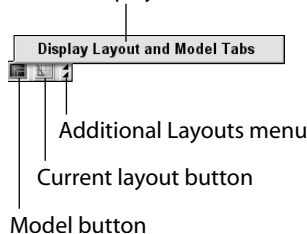

**Figure 17-1:** You can switch between model and paper space using the buttons on the status bar.
*Model space* refers to the mode in which you work when you draw and edit your model. Throughout this book, the discussions and exercises have assumed that you were in model space. By default, AutoCAD and AutoCAD LT have two buttons on the status bar that let you switch between model space and a layout. When the Model button is indented, you know that you're in model space, as shown in Figure 17-1.
You can switch between two methods for displaying model and paper space (layouts). The default shows two buttons on the status bar—a model button and a button for the current layout. You can click the arrows to access a menu listing additional layouts. See Figure 17-1. This system increases the drawing area slightly.